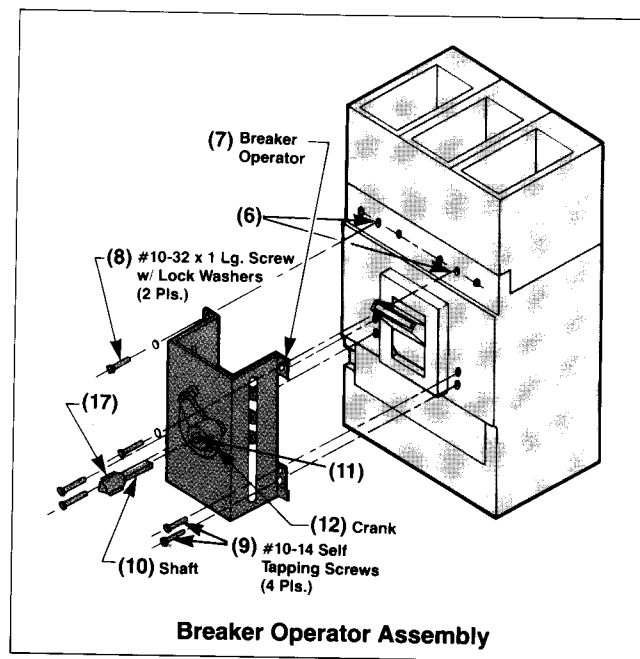

Figure 4
- Loosen four breaker terminal shield screws (3), remove both terminal shields (4) from the line and load side of the circuit breaker and mount the circuit breaker to the enclosure panel using four $\frac{3}{8}$ -16 in. mounting screws, washers and nuts (5) provided in hardware kit. Tighten mounting hardware securely (Figure 4).
- Remove the second screw (6) from each side of the circuit breaker cover (located above the circuit breaker handle) (Figure 4).
- Position the breaker operator (7) on the circuit breaker and attach at the top using the two #10-32 x 1.00 pan head screws (8) and lock washers. Torque these screws to 25 in. lb. Attach the breaker operator at the bottom using the four #10-14 x .500 phillips head thread forming screws (9). Torque to 20 in. lb. maximum (Figure 4).
NOTE: Groove in shaft fits over ridge along side of hole. (Figure 4).
- Close enclosure door. Confirm that handle interlocks with the guide cone (17) (Figure 4) of the shaft to hold the door closed in all handle positions except OPEN/RESET. Check proper operation of the circuit breaker ON/OFF and RESET.